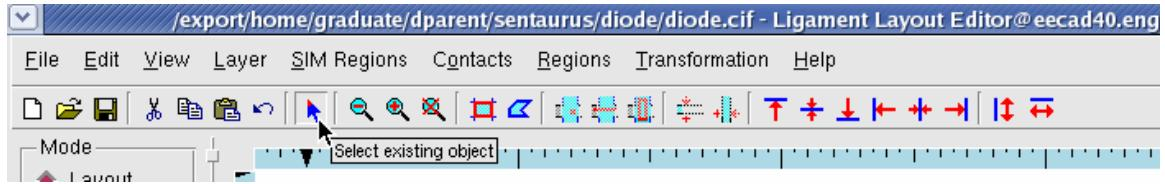

Figure 17: Selecting the selection tools to edit the NDIFF Rectangle.
7. To edit the coordinates click on the select an existing object icon (Figure 17), and then double click on the rectangle you wish to edit (Figure 17).